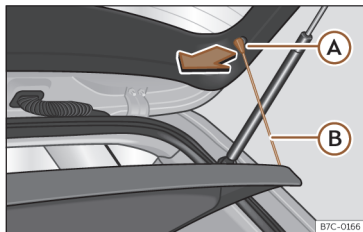

Fig. 179 In the boot: removing and installing the shelf.
- Detach the cord loops >>> **Fig. 179 (A)** from their hooks **(A)**.
- Attach the securing straps >>> **Fig. 179 (B)** onto the rear lid.